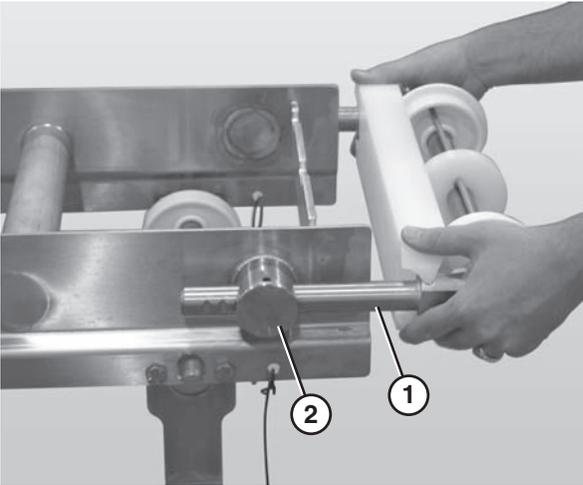

Figure 70
- Slide the idler tail assembly (**Figure 70, item 1**) out of the take up blocks (**Figure 70, item 2**).